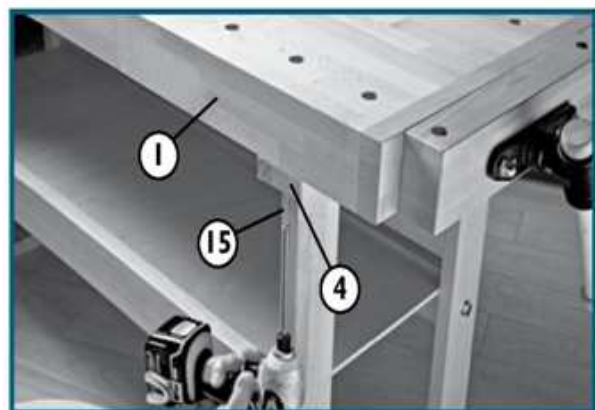

Fig. 5
5. Place the Bench Top (1) so it rests in place on the two leg assemblies. Attach to the Top Rail Supports (4) with four 5 x 50mm Wood Screws (15), one in each corner (Fig. 5).